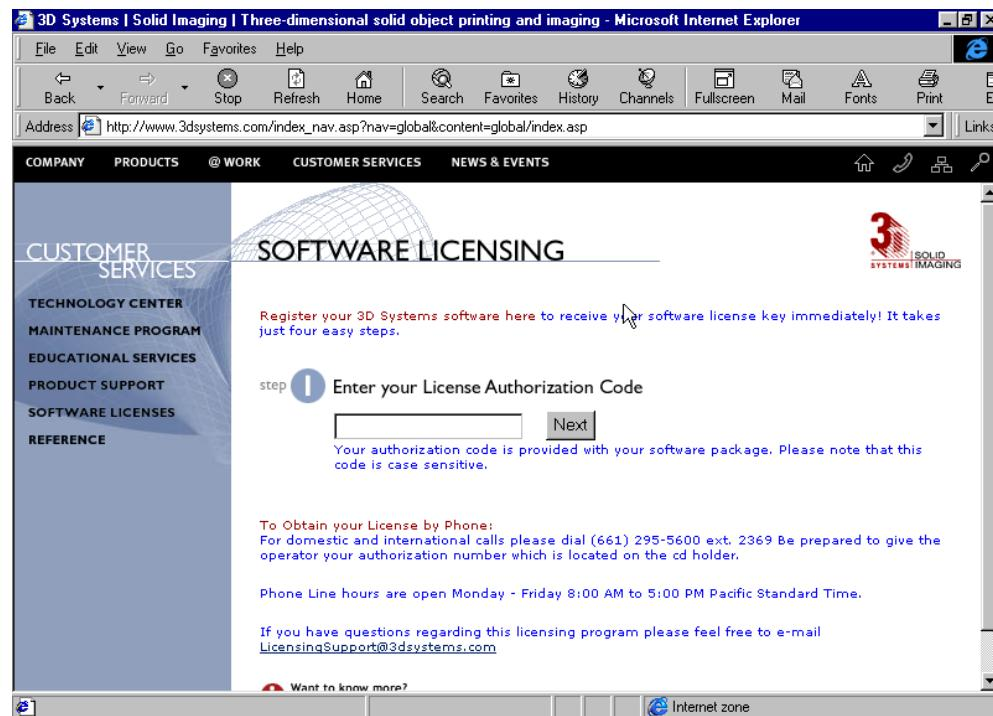

Figure 14. You obtain your software license on line via 3D Systems' Corporate Website.
7. **Follow the instructions for licensing your software under “Customer Services”, “Software Licenses.” See Figure 14.**